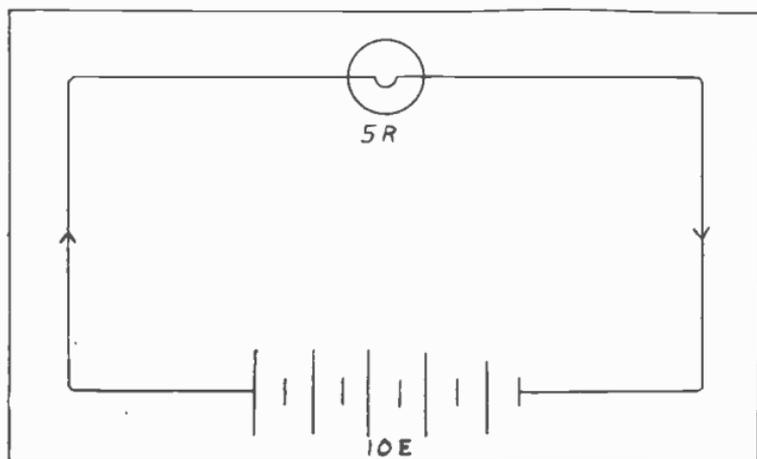

Fig. 28. A 10-volt Battery Supplying Current To a 5-ohm Lamp.
In Fig. 28 we have a battery furnishing 10 volts pressure difference (E) to a lamp whose resistance (R) is 5 ohms, and we wish to know the current